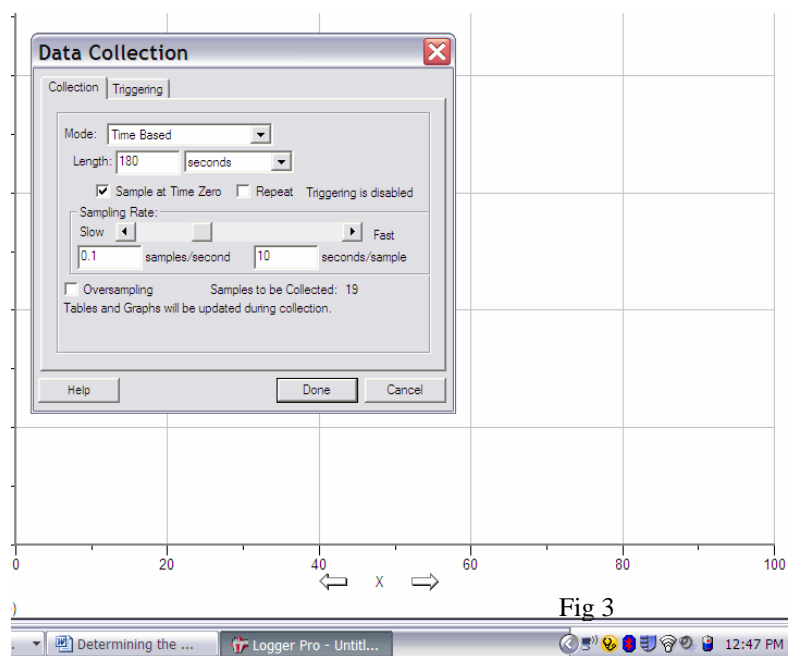

Fig 3
7. Set up the data collection device to collect data every 10 seconds for 18 collections. (experiment length 180 seconds). See Figure 3.